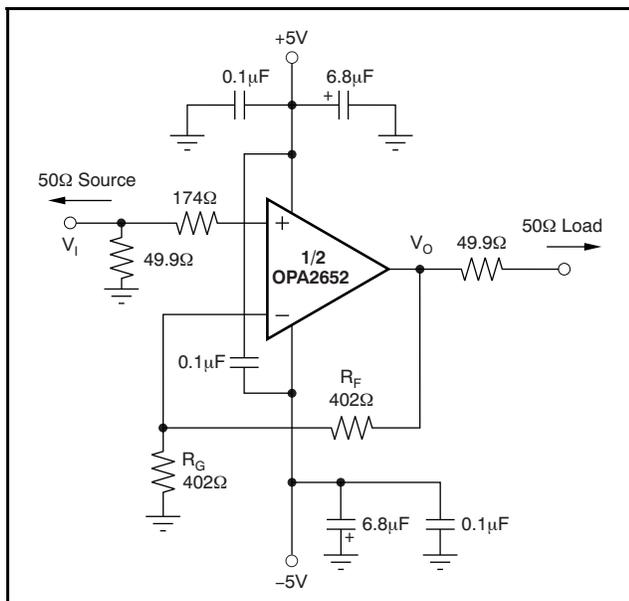
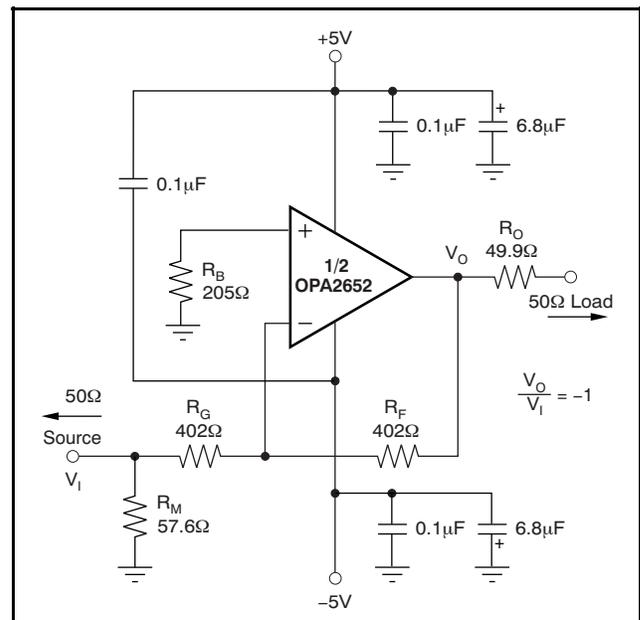

Figure 28. DC-Coupled, $G = +2$, Bipolar Supply, Specification and Test Circuit
Figure 29. DC-Coupled, $G = -1$, Bipolar Supply, Specification and Test Circuit
At $T_A = +25^\circ C$, $G = +2$, $R_F = 402\Omega$, and $R_L = 100\Omega$, unless otherwise noted. See Figure 28 and Figure 29 for AC performance only.
At $T_A = +25^\circ C$, $G = +2$, $R_F = 402\Omega$, and $R_L = 100\Omega$, unless otherwise noted. See Figure 28 and Figure 29.
Figure 28 shows the DC-coupled, gain of +2, dual power-supply circuit configuration used as the basis of the $\pm 5\text{V}$ specifications and typical characteristics. This configuration is for one channel. The other channel is connected similarly. For test purposes, the input impedance is set to 50Ω with a resistor to ground and the output impedance is set to 50Ω with a series output resistor.
Voltage swings reported in the specifications are taken directly at the input and output pins, while output powers (dBm) are at the matched 50Ω load. For the circuit of Figure 28, the total effective load will be $100\Omega \parallel 804\Omega$. Two optional components are included in Figure 28.
Figure 29 shows the DC-coupled, gain of -1 , bipolar supply circuit configuration that is the basis of the specifications and typical characteristics at $G = -1$. The input impedance matching resistor (57.6Ω) used for testing gives a 50Ω input load. A resistor (205Ω) connects the noninverting input to ground. This configuration provides the DC source resistance matching to cancel outputs errors arising from input bias current.
A good rule of thumb is to target the parallel combination of R_F and R_G (see Figure 28) to be less than approximately 300Ω. The combined impedance $R_F \parallel R_G$ interacts with the inverting input capacitance, placing an additional pole in the feedback network, and thus a zero in the forward response. Assuming a 2pF total parasitic on the inverting node, holding $R_F \parallel R_G < 300\Omega$ keeps this pole above 250MHz. By itself, this constraint implies that the feedback resistor R_F can increase to several kΩ at high gains. This increase is acceptable as long as the pole formed by R_F and any parasitic capacitance appearing in parallel is kept out of the frequency range of interest.
Voltage feedback op amps exhibit decreasing closed-loop bandwidth as the signal gain is increased. In theory, this relationship is described by the Gain Bandwidth Product (GBP) shown in the specifications. Ideally, dividing GBP by the noninverting signal gain (also called the Noise Gain, or NG) predicts the closed-loop bandwidth. In practice, this prediction only holds true when the phase margin approaches 90°, as it does in high gain configurations. At low gains (increased feedback factor), most amplifiers exhibit a wider bandwidth and lower phase margin. The OPA2652 is compensated to give a flat response in a noninverting gain of 1 (see Figure 28). This configuration results in a typical gain of +1 bandwidth of 700MHz, far exceeding that predicted by dividing the 200MHz GBP by $NG = 1$. Increasing the gain
Because the OPA2652 is a general-purpose, wideband voltage feedback op amp, all of the familiar op amp application circuits are available to the designer. Inverting operation is one of the more common requirements and offers several performance benefits. Figure 29 shows a typical inverting configuration.
In the inverting configuration, three key design considerations must be noted. First, the gain resistor (R_G) becomes part of the signal channel input impedance. If input impedance matching is desired (which is beneficial whenever the signal is coupled through a cable, twisted pair, long PCB trace or other transmission line conductor), R_G may be set equal to the required termination value and R_F adjusted to give the desired gain. This approach is the simplest, and results in optimum bandwidth and noise performance. However, at low inverting gains, the resulting feedback resistor value can present a significant load to the amplifier output. For an inverting gain of -1 , setting R_G to 50Ω for input matching eliminates the need for R_M but requires a 50Ω feedback resistor. This configuration has the interesting advantage that the noise gain becomes equal to 2 for a 50Ω source impedance—the same as the noninverting circuits considered above. However, the amplifier output now sees the 50Ω feedback resistor in parallel with the external load. In general, the feedback resistor should be limited to the 200Ω to 1.5kΩ range. In this case, it is preferable to increase both the R_F and R_G values as shown in Figure 29, and then achieve the input matching impedance with a third resistor (R_M) to ground. The total input impedance becomes the parallel combination of R_G and R_M .
The second major consideration, touched on in the previous paragraph, is that the signal source impedance becomes part of the noise gain equation and influences the bandwidth. For the example in Figure 29, the R_M value combines in parallel with the external 50Ω source impedance, yielding an effective driving impedance of $50\Omega \parallel 57.6\Omega = 26.8\Omega$. This impedance is added in series with R_G for calculating the noise gain (NG). The resulting NG is 1.94 for Figure 29 (an ideal source would cause $NG = 2.00$).
error, as a result of the input bias currents, is reduced to (Input Offset Current) • R_F . If the 50 Ω source impedance is DC-coupled in Figure 29, the total resistance to ground on the inverting input will be 429 Ω . Combining this in parallel with the feedback resistor gives 208 Ω , which is close to the $R_B = 205\Omega$ used in Figure 29. To reduce the additional high-frequency noise introduced by this resistor, it is sometimes bypassed with a capacitor. As long as $R_B < 300\Omega$, the capacitor is not required since its total noise contribution is much less than that of the op amp input noise voltage.
The OPA2652 provides good distortion performance into a 100 Ω load on $\pm 5V$ supplies. Increasing the load impedance improves distortion directly. Remember that the total load includes the feedback network; in the noninverting configuration (Figure 28), this is sum of $R_F + R_G$, while in the inverting configuration, it is only R_F . Also, providing an additional supply decoupling capacitor (0.1 μF) between the supply pins (for bipolar operation) improves the 2nd-order distortion slightly (3dB to 6dB).
Evaluating these two equations for the OPA2652 circuit and component values shown in Figure 28 gives a total output spot noise voltage of $17\text{nV}/\sqrt{\text{Hz}}$ and a total equivalent input spot noise voltage of $8.4\text{nV}/\sqrt{\text{Hz}}$. This noise includes the noise added by the bias current cancellation resistor (205Ω) on the noninverting input. This total input-referred spot noise voltage is only slightly higher than the $8\text{nV}/\sqrt{\text{Hz}}$ specification for the op amp voltage noise alone. This result will be the case as long as the impedances appearing at each op amp input are limited to the previously recommend maximum value of 300Ω . Keeping both $(R_F \parallel R_G)$ and the noninverting input source impedance less than 300Ω satisfies both noise and frequency response flatness considerations. Since the resistor-induced noise is relatively negligible, additional capacitive decoupling across the bias current cancellation resistor (R_B) for the inverting op amp configuration of Figure 29 is not required.
The balanced input stage of a wideband voltage feedback op amp allows good output DC accuracy in a wide variety of applications. Although the high-speed input stage does require relatively high input bias current (typically $4\mu\text{A}$ out of each input terminal), the close matching between them may be used to significantly reduce the output DC error caused by this current. This reduction is done by matching the DC source resistances appearing at the two inputs. This matching reduces the output DC error resulting from the input bias currents to the offset current times the feedback resistor. Evaluating the configuration of Figure 28, using worst-case $+25^\circ\text{C}$ input offset voltage and current specifications, gives a worst-case output offset voltage equal to:
As an example, compute the maximum T_J using an OPA2652E (SOT23-8 package) in the circuit of Figure 28 operating at the maximum specified ambient temperature of +85°C and with both outputs driving 2.5V_{DC} into a grounded 100Ω load.